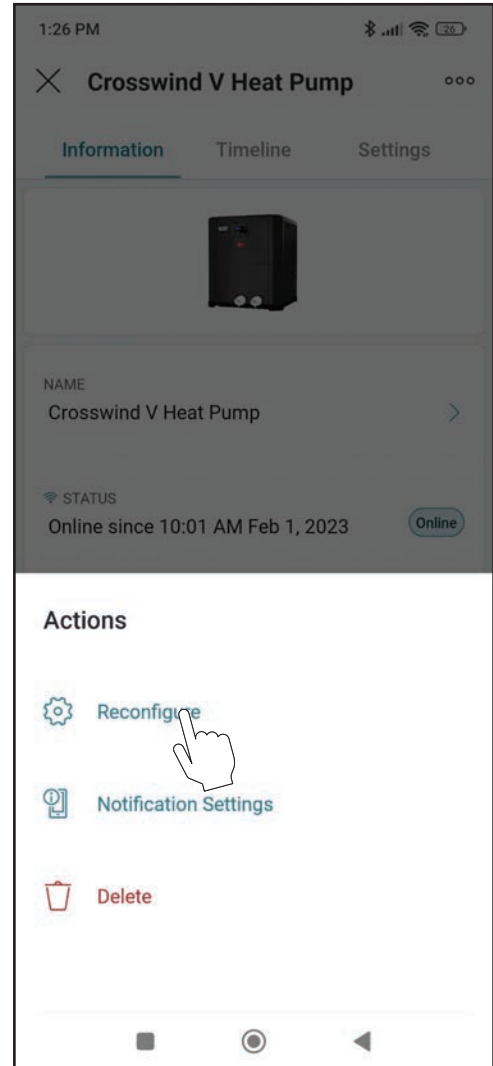

Figure 95. Select Reconfigure
3. Click in the 3-dots icon again. The action menu is displayed. In "Actions" menu, select the option "Reconfigure" as shown in Figure 95.